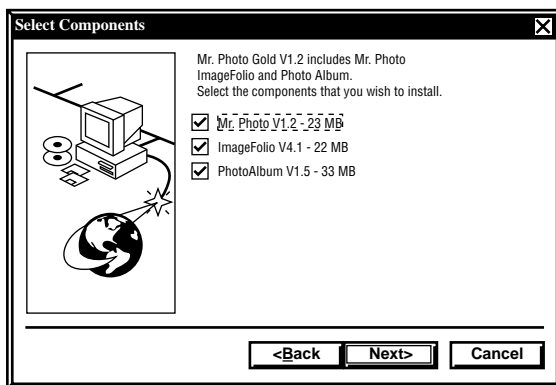

Figure 4-3. Choosing the group name.
9. Select components, as shown in **Figure 4-3**. Choose the group name you prefer, and click **Next**.